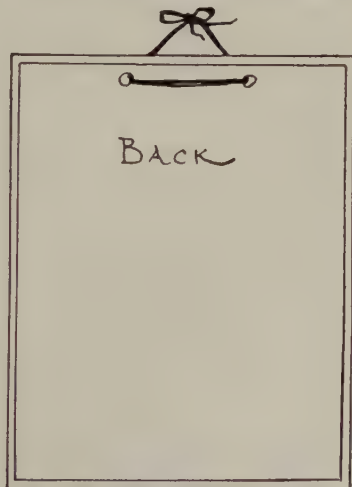

FIG. 88—CORD POSITION
11. Put cord through two holes and tie bowknot at top—allow knot 3" distance from either hole. (Fig. 88.)